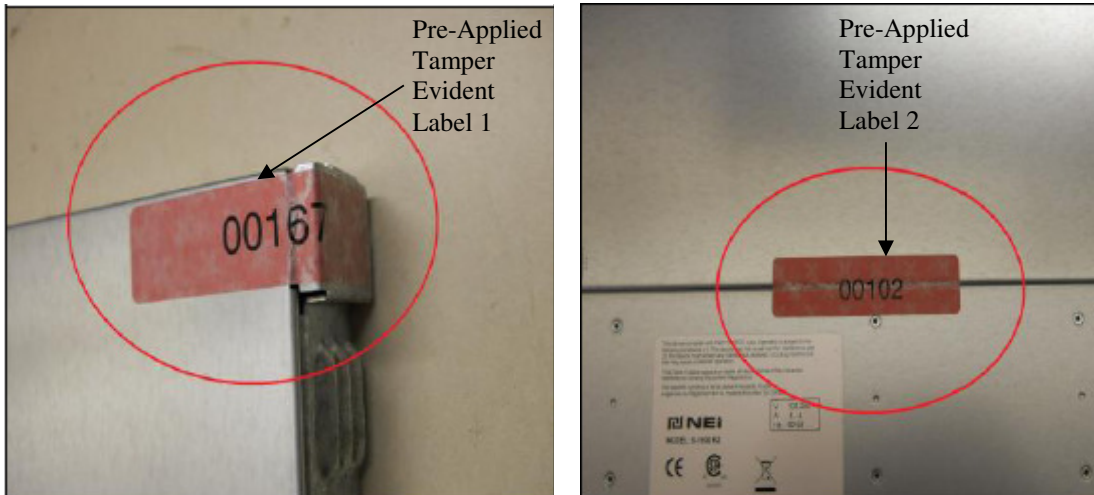
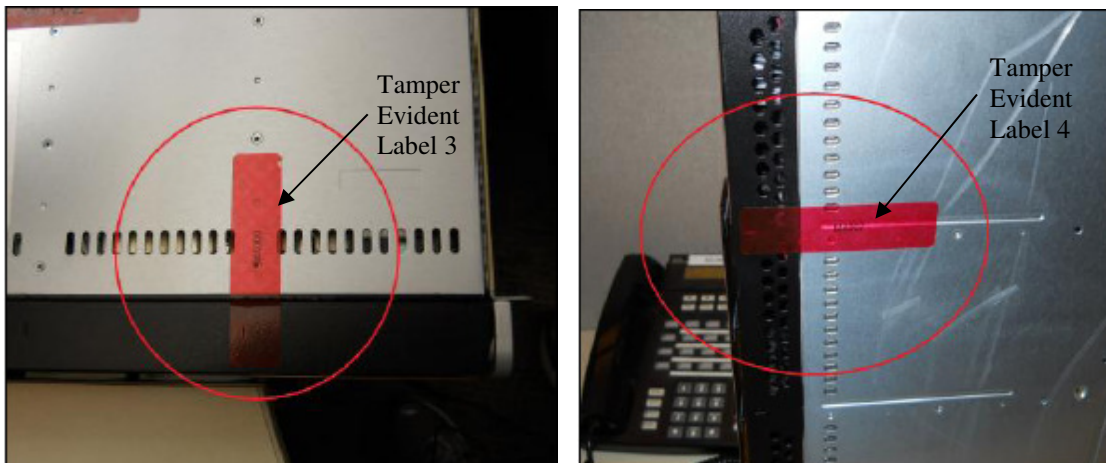
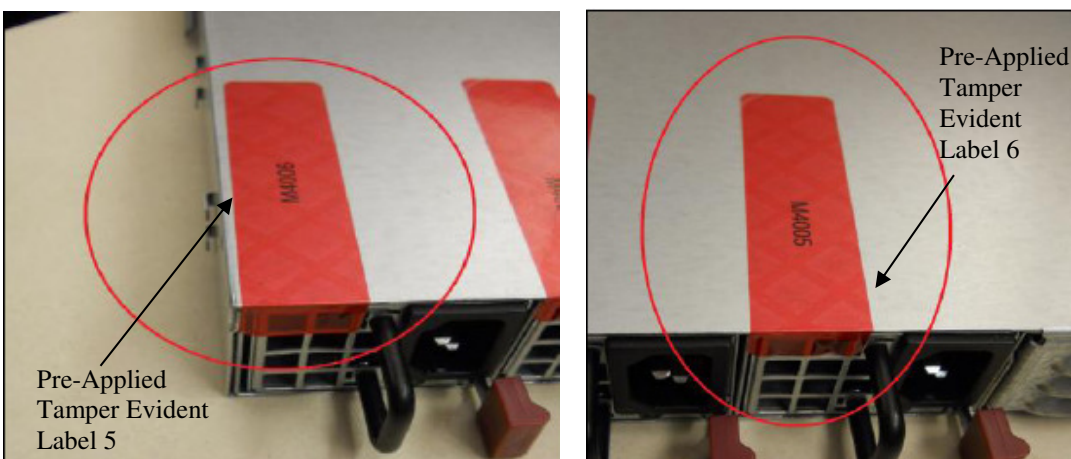

Figure 10 – Rear Metallic Bezel Seal (Left) and Sealed Top Cover (Right) of B300r1 and B300r2
Figure 11 – Sealed Front Bezel to Chassis Top (Left) and Sealed Front Bezel to Chassis Bottom (Right) of B300r1 and B300r2
Figure 12 – Sealed Top Chassis to Left Power Supply (Left) and Sealed Top Chassis to Right Power Supply (Right) of B300r1 and B300r2
The B300r1 and B300r2 with tamper-evident label kit – part # TEL135325 – and front bezel – part # FB000300 – will be shipped from the factory with six labels. Four labels are pre-applied at factory (see Figure 10 and Figure 12 below). Two labels are to be applied by the Crypto-Officer on chassis top and bottom overlapping the front bezel (see Figure 11 below). This is to allow the end-user to reseat the drives upon receipt before affixing the front bezel to the appliance. Upon delivery, the Crypto-Officer should ensure that the module was not tampered with during shipment and that the labels have been applied properly. Also, tamper-evident labels shall be routinely inspected for damage by the Crypto-Officer. If the Crypto-Officer finds a label that is questionable in appearance, contact Bomgar support toll-free at 1-877-826-6427 x2 or internationally at +01-601-519-0123 x2. If any additional labels are needed contact Bomgar support toll-free at 1-877-826-6427 x2 or internationally at +01-601-519-0123 x2 with part # TEL135325. The Crypto-Officer is also responsible for securing and having control of the additional tamper-evident labels at all times.
1. Inspect all tamper-evident labels that shipped pre-applied to the B300 chassis (see Figure 10 below), ensuring that each label shows no sign of tampering and is properly placed. Any attempt to reposition or remove the label will result in the voiding of that label and leave a residue on the surface. If you find a label that is questionable in appearance, contact Bomgar support toll-free at 1-877-826-6427 x2 or internationally at +01-601-519-0123 x2.
3. Holding the label by the edges, place the label on the surface as indicated in Figure 11 and Figure 12.